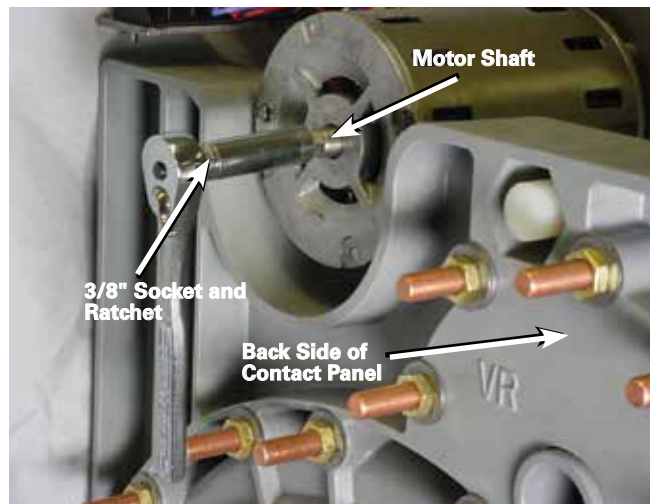

Figure 82. Motor and movable contact rotation.
7. When the movable contacts are located on the stationary contact to be replaced, the movable contacts must be moved. Place a 3/8" socket onto the rear shaft of the motor. See Figure 82. Using a ratchet, rotate the motor to position the movable contacts off of the contact to be replaced.